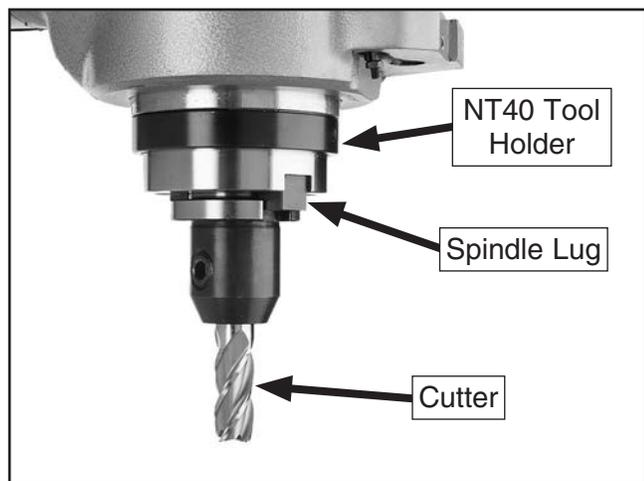

Figure 48. Cutting tool and holder installed into the spindle.
3. Align the spindle lugs with the slots on the tool holder, then push the tool firmly into the spindle taper to seat it (see **Figure 48**).